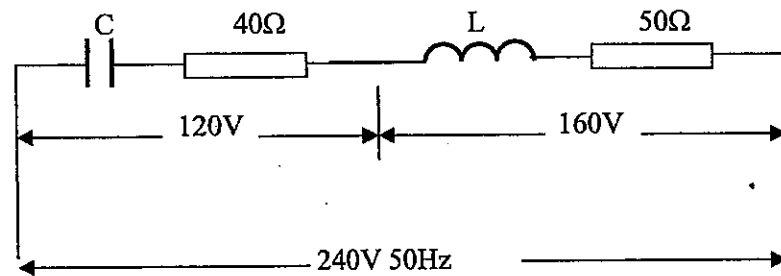

Fig Q6
- the slip; (3)
- the rotor input; (4)
- the rotor copper loss; (3)
- the output torque if the mechanical losses total 3kW; (4)
- the efficiency. (2)
- the copper loss at full load; (6)
- the efficiency at full load and 0.8 p.f. lag; (6)
- the efficiency at half full load and unity p.f. (4)
6. An a.c. series circuit consists of four elements as shown in Fig Q6. The power generated in the  $50\Omega$  resistor is  $200\text{W}$  and the volt drops across the various parts of the circuit are as shown.